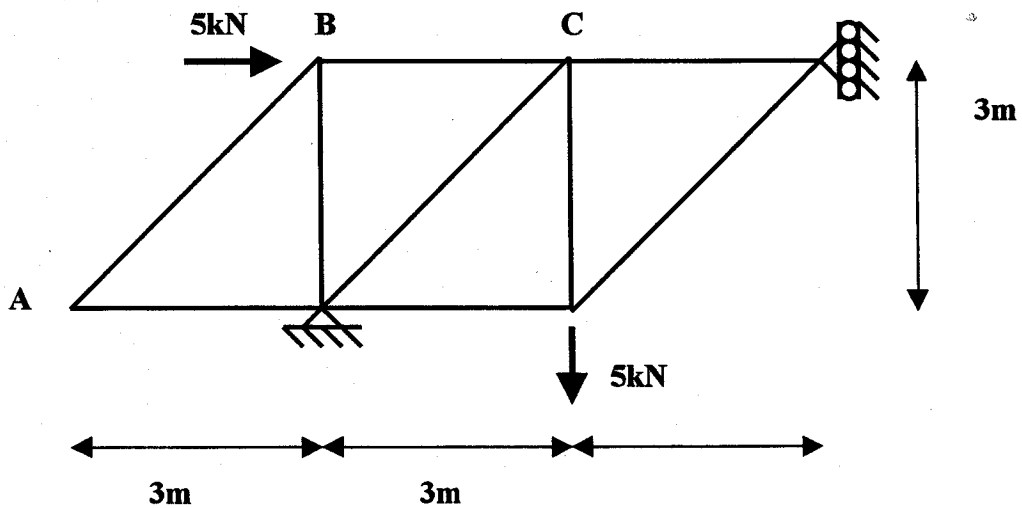

Fig. Q5
5. Determine the vertical deflection at Point A in the pin-jointed truss in Fig. Q5 when (i) the truss is subjected to external loads as shown and (ii) when the members AB and AC are subjected to a  $50^{\circ}\text{C}$  temperature rise. For all truss members,  $E = 200,000 \text{ N/mm}^2$ ,  $A = 100 \text{ mm}^2$ , coefficient of thermal expansion  $= 1.2 \times 10^{-5}/^{\circ}\text{C}$ .